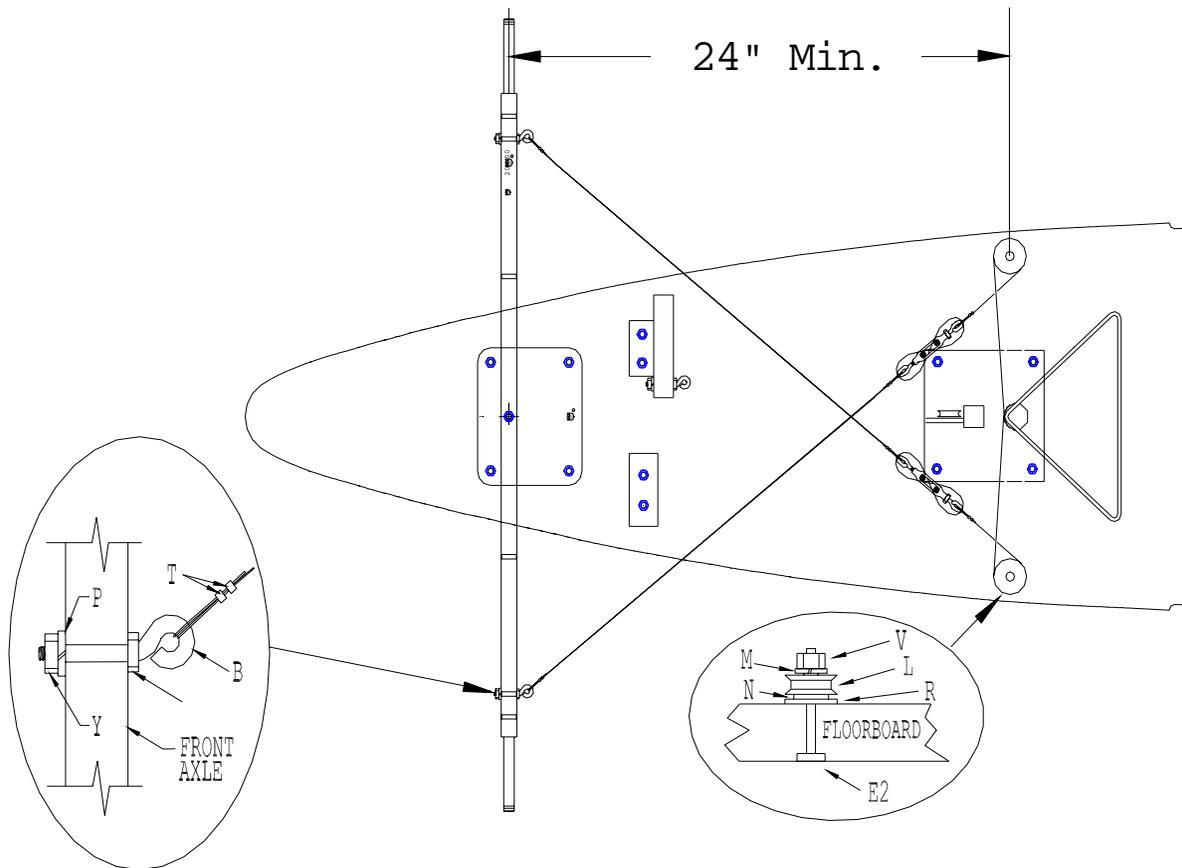

FIG. 4.4
- b. Run cable to the pulley and then to the axle as shown in Fig. 4.4. These pulleys must be at least 24" from the front center of axle to center of pulley. If your steering shaft assembly is 24" or more from front axle you may run the cable directly from the steering shaft to the axle.
- Route the Brake Cable J to Center pulley then to the Brake Pedal as in Fig. 4.4. (Cable may be cut & taped)